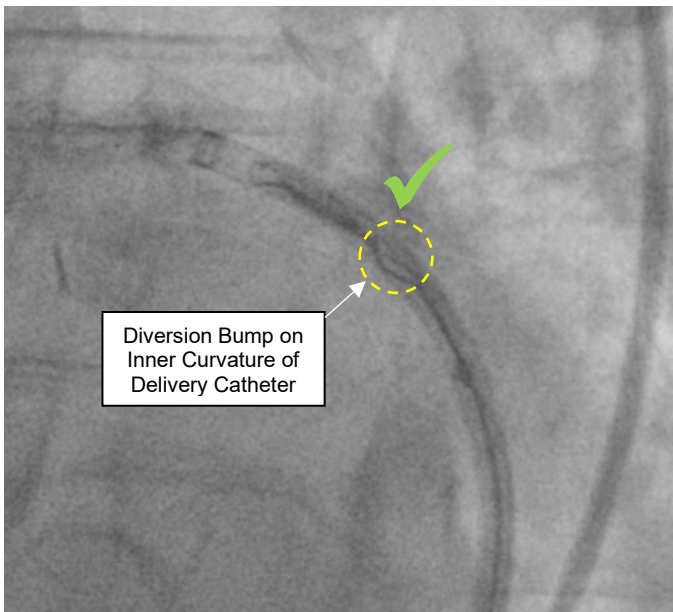
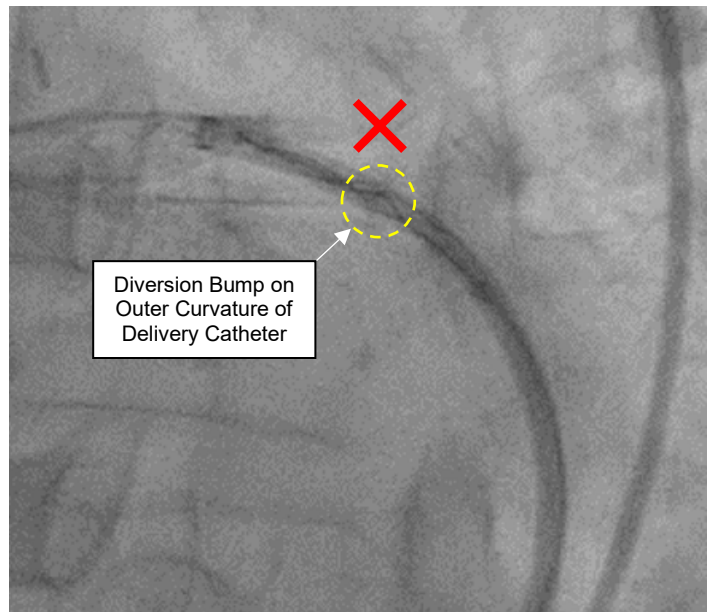

**Figure 11a: Correct Distal Anchor Orientation**
**Figure 11b: Incorrect Distal Anchor Orientation**
- f. Using fluoroscopy (and/or cinefluoroscopy), confirm correct distal anchor orientation prior to unsheathing the distal anchor from the delivery catheter. The diversion bump should be closer to (and pointing towards) the inner curvature of the delivery catheter (Figure 11a). If the diversion bump is closer to (and pointing towards) the outer curvature of the delivery catheter (Figure 11b), then the distal anchor is incorrectly oriented. If the implant is misoriented then stop and do not retract the delivery catheter to unsheath and deploy the misoriented Distal Anchor into the venous lumen.